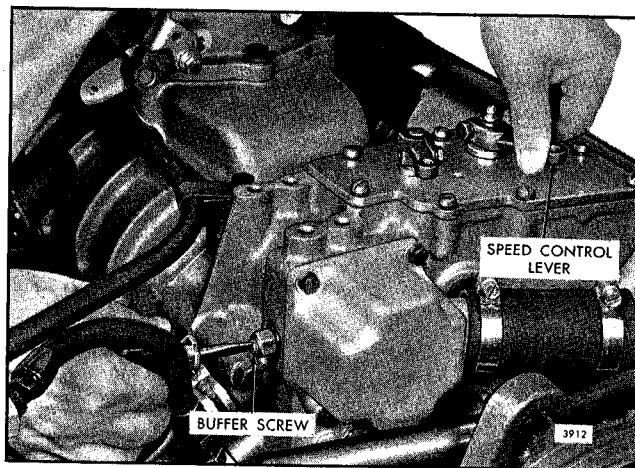

Fig. 22 - Adjusting Buffer Screw
1. With the engine running at normal operating temperature, turn the buffer screw in (Fig. 22) so it contacts the differential lever as lightly as possible and still eliminates the engine roll.